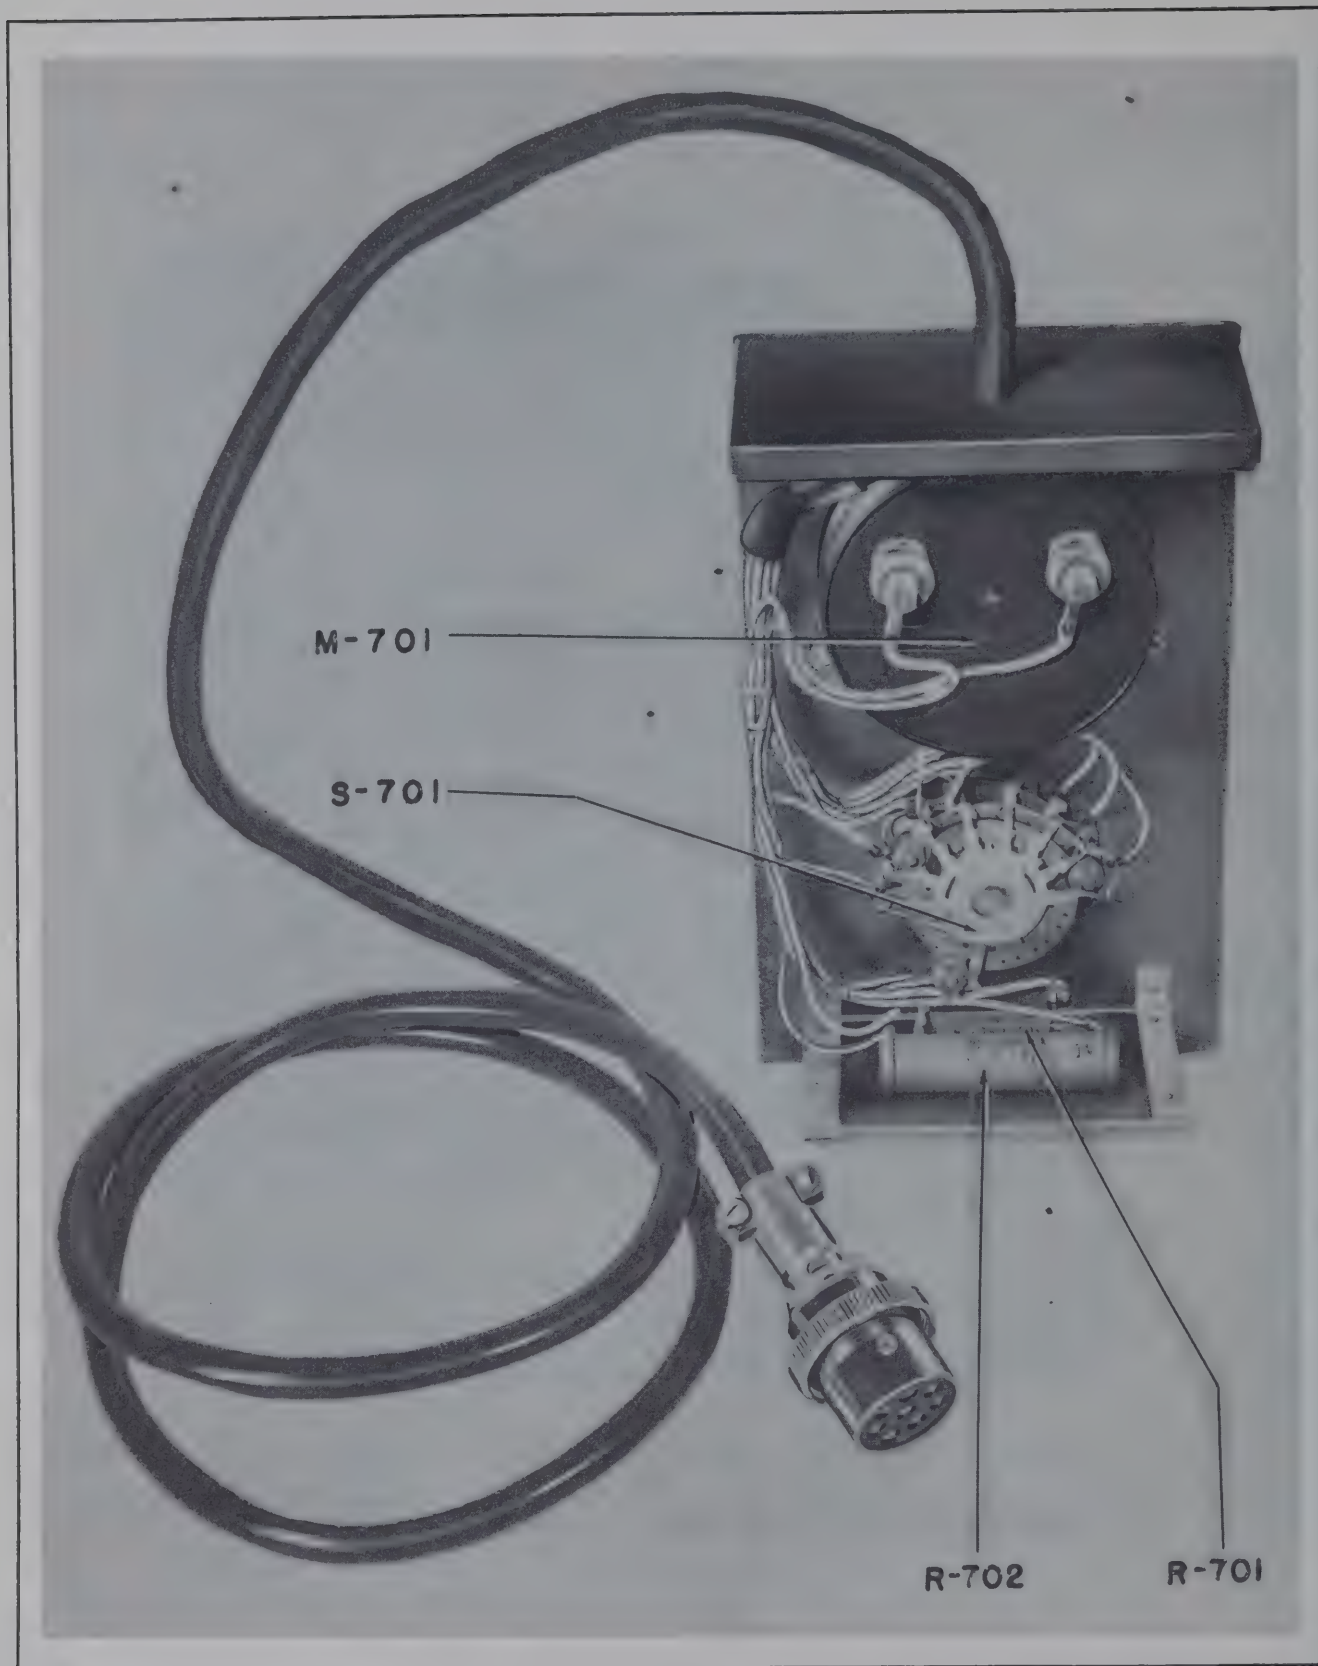

Figure 5-3. Test Unit TS-178/ARM-1 — with Case Removed
(1) Remove Test Unit TS-178/ARM-1 from case. (See fig. 5-3.)
(2) Remove the two wire leads from meter studs.
(3) Remove the three nuts holding meter to panel.
(4) Depress knob on top of Mounting MT-175/GSM-1 and place meter M701 in adjustable mounting holes, release knob.
(5) Check to see that all controls on Current Supply Unit PP-15/GSM-1 are in extreme counter-clockwise position.
(6) Connect the spade end of test cord, that has Plug PL-68 on one end, to the positive terminal on rear of Mounting MT-175/GSM-1.
(7) Connect one end of test cord, that has spade connections on both ends, to negative terminal of Mounting MT-175/GSM-1.
(8) Connect other spade end of test cord step (7) to "LOW AMPS." terminal on current supply unit.
(9) Connect range-selector shorting link on current supply unit to "OTHER RANGES" position.
(10) Insert Plug PL-68 into the "150" output jack on panel of current supply unit.
(11) Turn the power switch to "D.C." position.